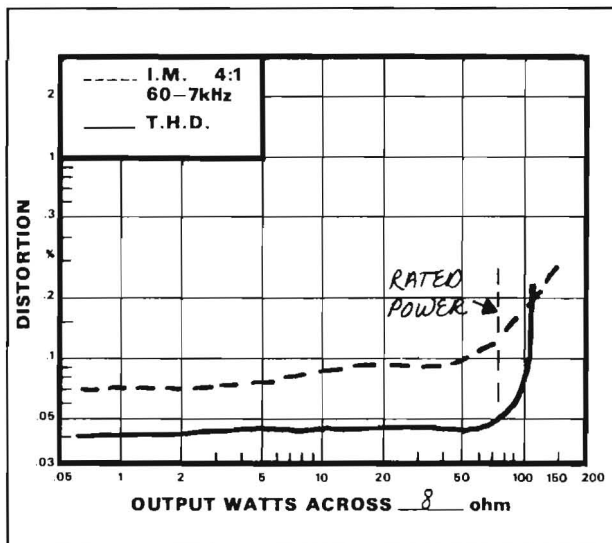

Figure 30 IM and THD Distortion of an Amplifier
1. Use the equipment setup and the procedure for harmonic distortion measurements and make a series of readings by using a 1000 Hz tone with a power output of 250 mW* increasing the output until the rated power of the amplifier is **exceeded**. Plot this data on a graph similar to that shown in Figure 30.